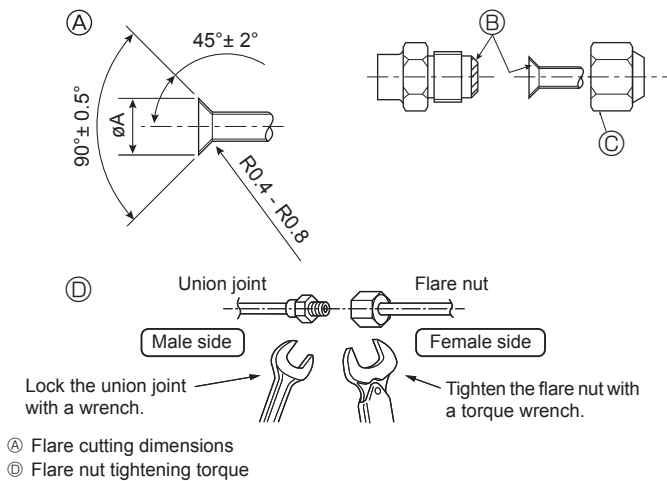

Fig. 4-6
Ⓐ (Fig. 4-6)
Ⓣ (Fig. 4-6)
4.4. Connecting pipes (Fig. 4-6)